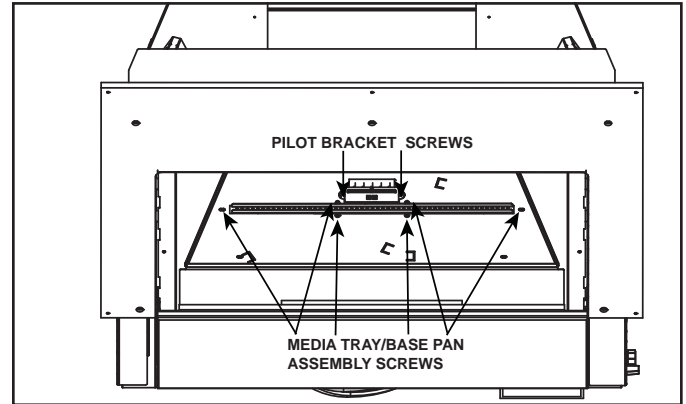

Figure 11.1 Cover Tray Removal
**Note:** This appliance does include a manual gas shutoff valve that is located in the valve compartment. This manual gas shutoff valve is accessible for service by removing the base pan, burner assembly and valve plate. See Figure 11.1.